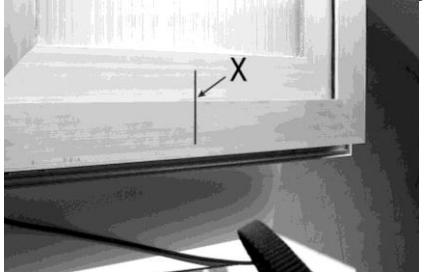

Figure 12
- A. Pencil in an "X" over the centre line of the window frame (fig. 12).